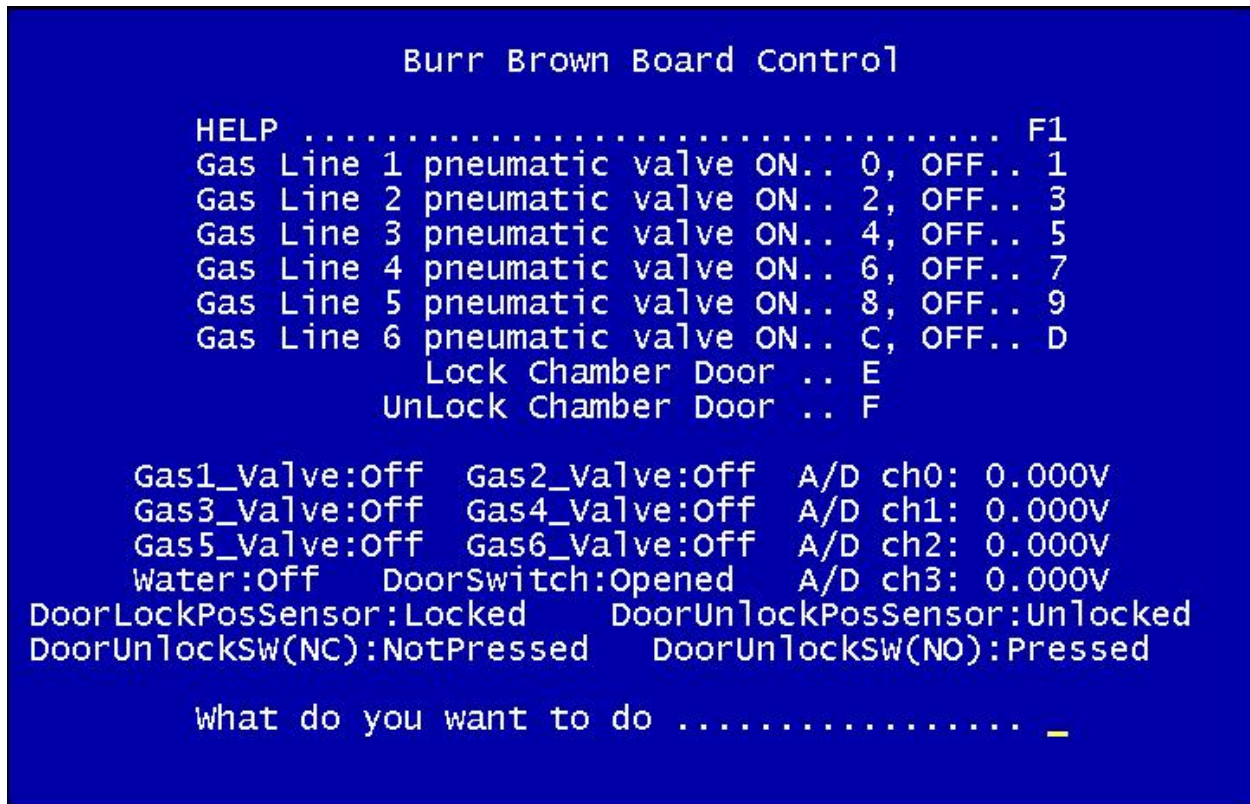

Figure 3-16. Burr Brown Board Control Screen
2. The *Burr Brown Board Control Screen* will appear (see Figure 3-16).